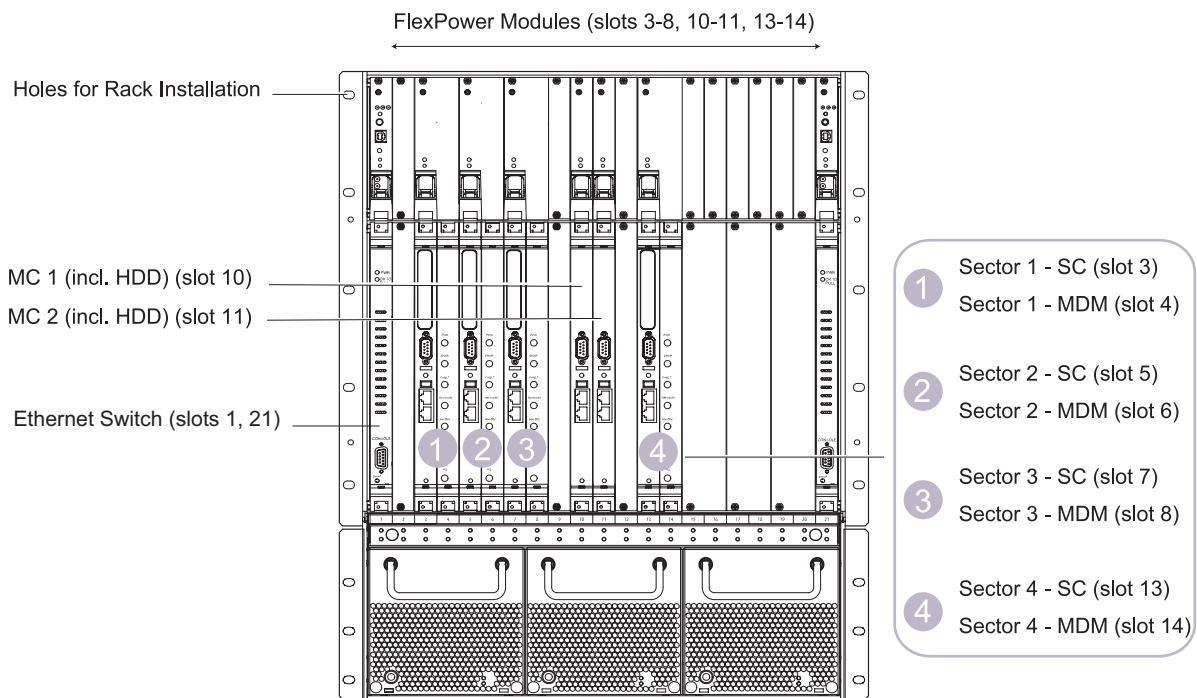

Figure 4.21 Digital Shelf Layout (Front View)
Table 4.6 and Figure 4.21 show the layout of the front-facing cards on the digital shelf.
See Figure 4.21 for the location of each card. If the configuration of your base station does not use a full complement of cards, some slots will be left empty.
- 6** Slide the card into the correct slot. Slot locations are shown on Figure 4.21. Use the guide rails to ensure the connectors are aligned.